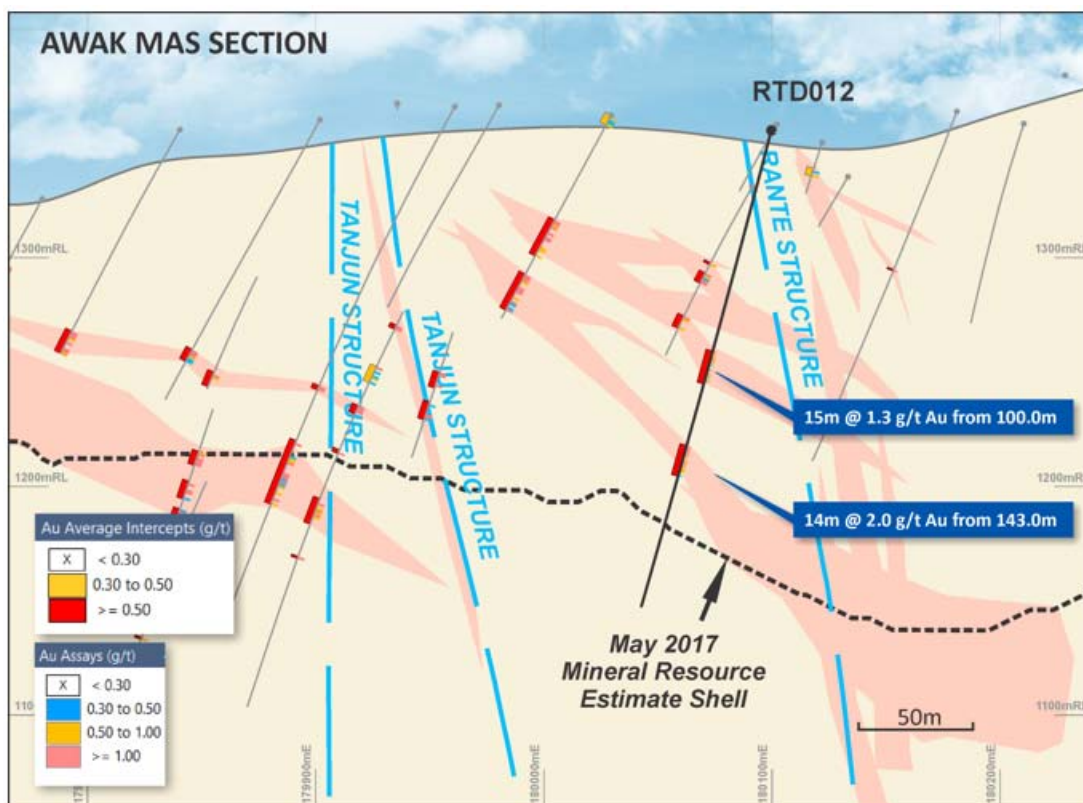

Figure 2: Cross-section of Awak Mas deposit showing mineralised intersections > 0.3 g/t Au in RTD012
- RTD012 (Figure 2); 15.0 m at 1.3 g/t Au from 100.0 m, 14.0 m at 2.0 g/t Au from 143.0 m; and